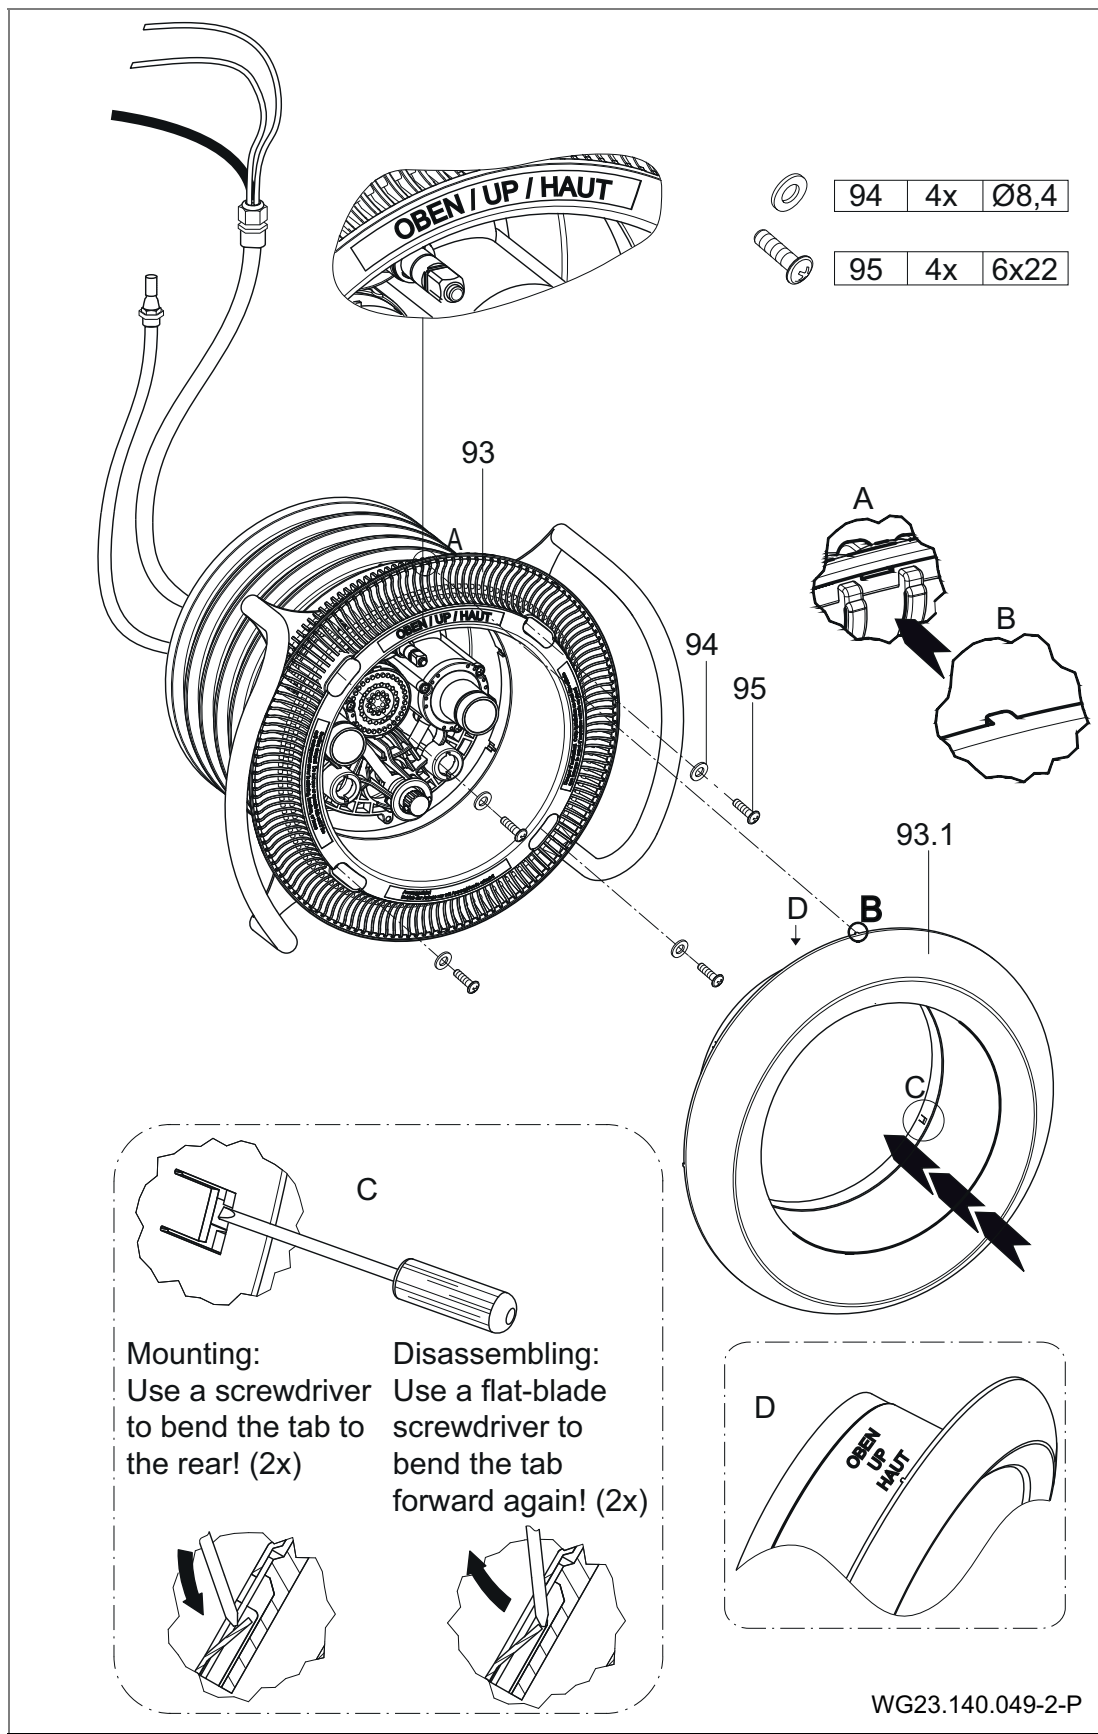
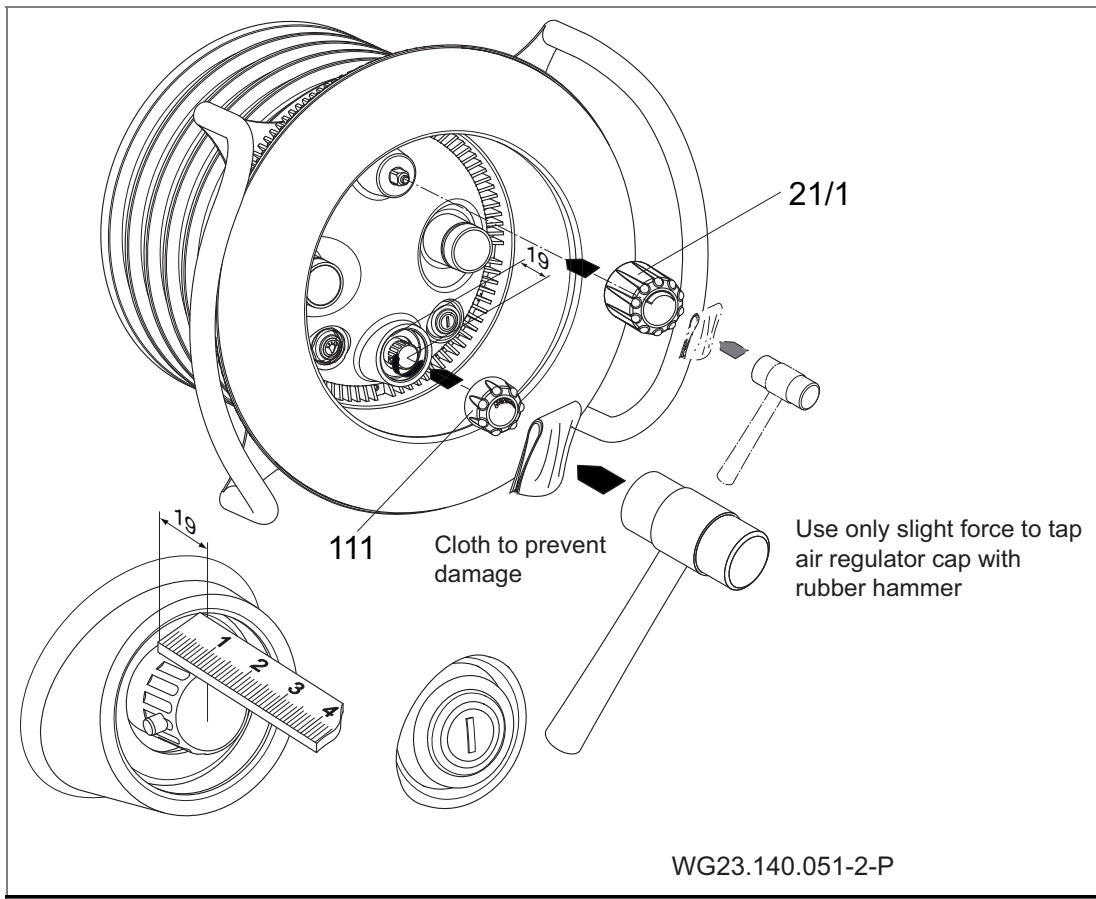

Fig. 17
Fig. 19
8. Place the suction panel (93) on the support ring (28) and fasten with four plain washers (94) and four tapping screws (95). (Fig. 17)
(Fig. 17)
12. Primavera: Mount the cap for the volume (111) and air regulator (21/1) by means of a rubber mallet and a protective cloth. (Fig. 19)
1. Remove the caps for the volume regulator (111) and air regulator (21/1). See "Fig. 19"
2. Loosen the tapping screws (112) and remove the light cover (110).
3. Bend the two offset tabs on the stainless steel cover back towards the front and remove the stainless steel cover. See "Fig. 17"
4. Loosen the tapping screws (95) and remove the suction panel (93) and hand rail (70).
5. If necessary, loosen the tapping screws (61). Remove the nozzle housing (102.1). When doing so, be aware of the internal air line (4) which is fastened to the main housing (1).
6. Loosen the screws (52). Remove the handrail (70), support ring (28) and support ring seal (27).